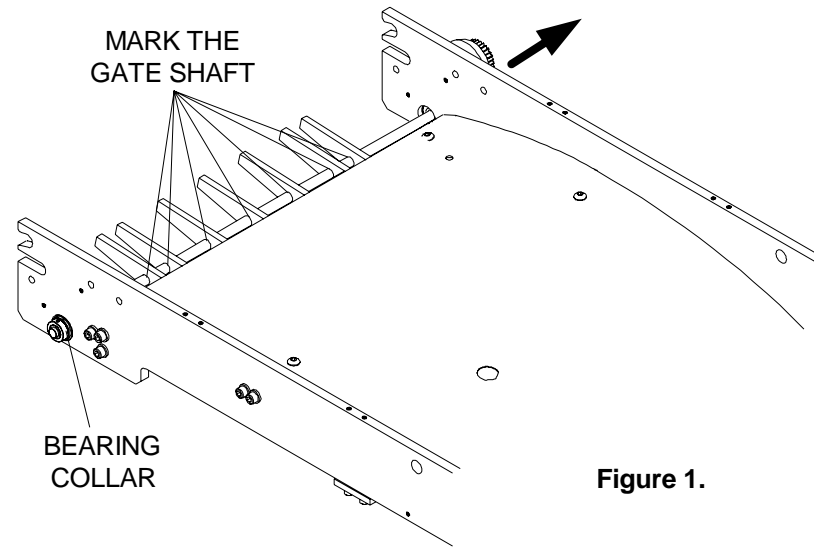

Figure 1.
5. Slide the Bypass Gate Shaft towards the back of the machine until you can remove the Gate Fingers (Figure 1).